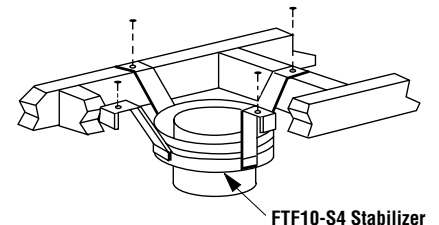

Figure 27
Install the Model FTF10-S4 stabilizer by fitting inner section down into respective section of proceeding flue pipe and locking outer stabilizer section into place over the outer chimney pipe. Position for proper clearance through framed opening and nail straps securely (under tension in "shear") into place on framing. Use 8d nails. Attach successive lengths of chimney pipe directly to stabilizer using same techniques as described in Step 4 (Figure 27).
**Step 1.** Use Offset Chart to determine amount of horizontal offset (A) and height (B) for various chimney section assemblies.
**Step 3.** Use Elevation Chart as job estimator only. Add necessary firestop spacers and stabilizers as required. Firestop spacers must be used as shown in Figures 21 and 22 and stabilizers as shown in Figure 27.